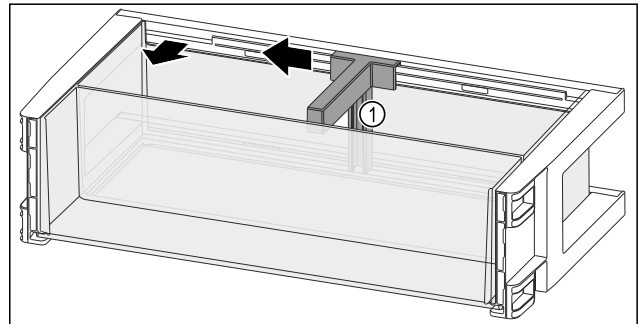

Fig. 139
- Push the bottle holder Fig. 139 (1) to the side up to the recess.
- Remove the bottle holder Fig. 139 (1).